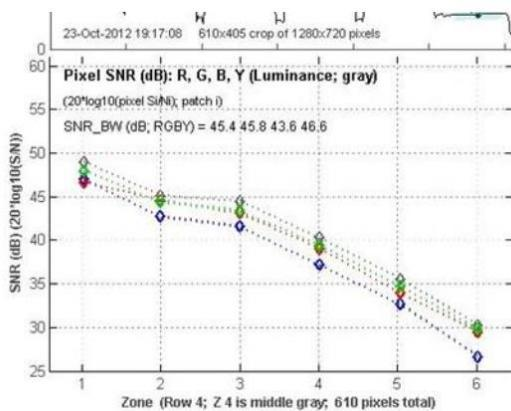

Figure 3.11-2 Imatest ColorChecker SNR output
3. Use Imatest to analyze SNR from patch 22, also defined as patch 4 in the output SNR plot (see Figure 3.11-2). This will be the starting point before sinter is enabled.